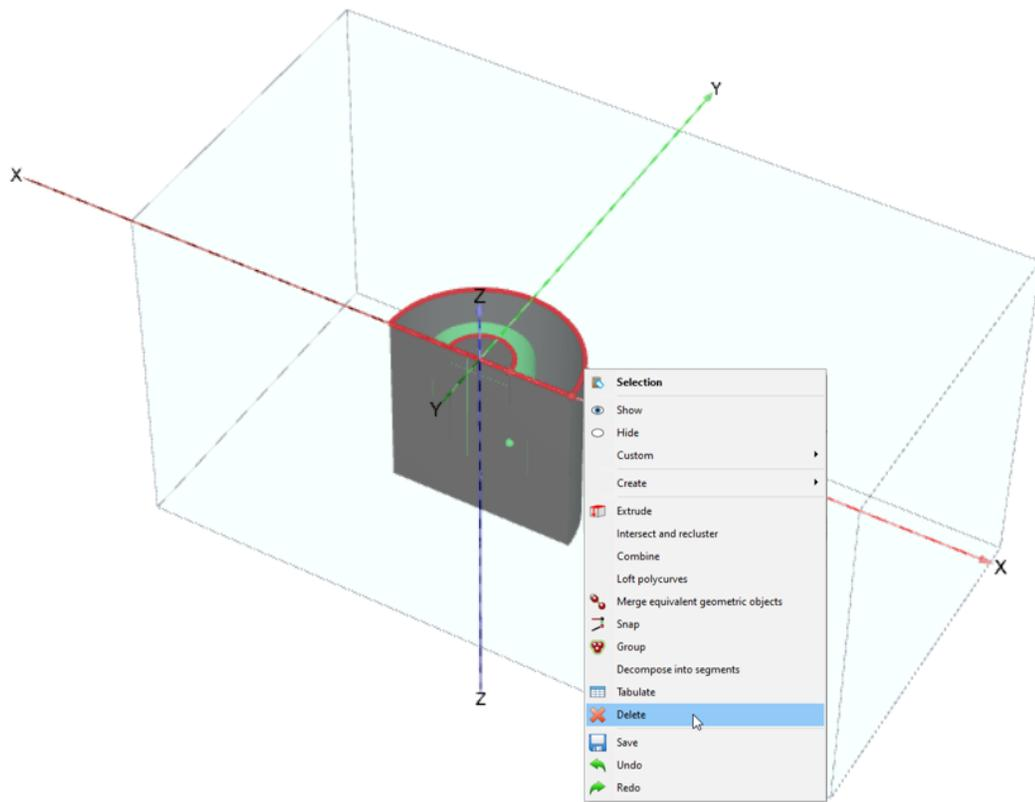

Figure 47: Deleting the two created polycurves
7. Multi select the two created polycurves, right-click and select **Delete** from the appearing menu as shown in Figure 47 (on page 68).